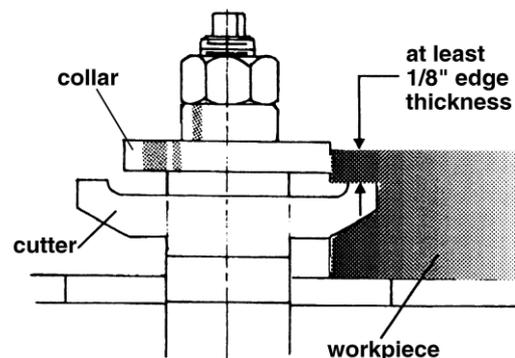

Fig. 34
**Note :** Since the collar requires at least 1/8" of surface edge to ride against, the entire edge cannot be shaped as shown in Figure 34. The added use of a pattern, however, permits the shaping of the entire contour edge.